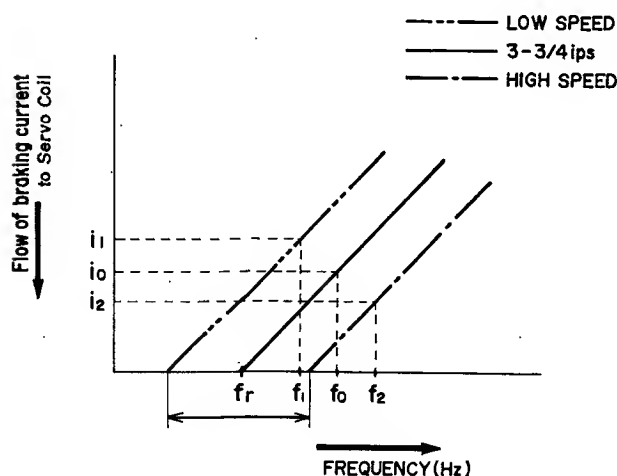

Fig. 23
6. In case of the capstan motor revolutions having reached the speed of n_2 , the detector signal produced at the detector coil surpasses f_0 and advances toward the higher f_2 frequency. (See Figs. 23 & 24). Accordingly, the flow of current to the servo coil increases, and because the electro-magnetic braking supplied to the capstan motor is increased, the capstan motor revolutions become slower, and normal revolutions are regained.
7. In case of the capstan motor revolutions having slowed to n_1 , the detector signal produced at the detector coil drops to lower than f_0 and descends toward the low f_1 frequency (See Figs. 23 & 24). Accordingly, the flow of current to the servo coil decreases, and because the electro-magnetic braking supplied to the capstan motor is decreased, the capstan motor revolutions speed up and normal revolutions are regained.
As shown in Fig. 23, resonance frequency f_r (between the arrow mark) is changed by adjusting the dust core of discriminator coil L-1 (V1203 1SC-01). Accordingly, f_0 is also changed between f_1 and f_2 , and the flow of braking current (i_0) to the servo coil is also changed between i_1 and i_2 . Consequently, correct tape speed can be attained by using a tape speed measuring tape and a Frequency Counter and adjusting the dust core of coil L-1.